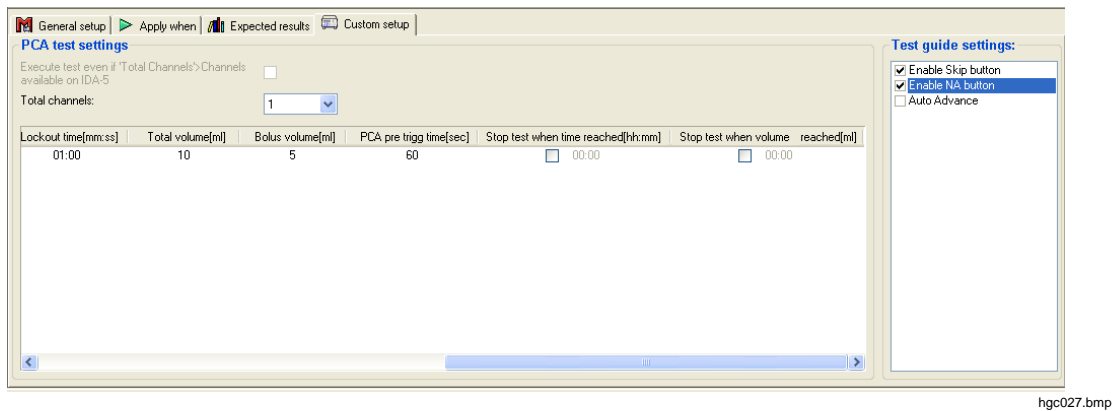

Figure 3-30. Setting Loading Dose in PCA Test
The custom setup for the PCA test is shown in Figure 3-30.
2. The grid shown in Figure 3-30 shows the selected channel numbers in each row with the default values for **loading dose**, **basal flow rate**, **lockout time**, **total volume**, **bolus volume**, and **PCA pre trigg time**.